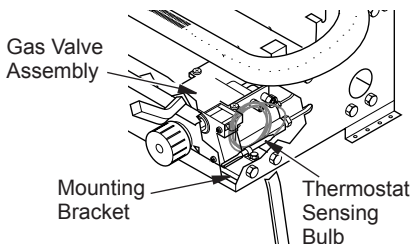

Figure 37 - Location of Gas Valve Assembly and Thermostat Sensing Bulb
1. Remove logs. Locate the gas valve assembly and thermostat sensing bulb (see Figure 37).